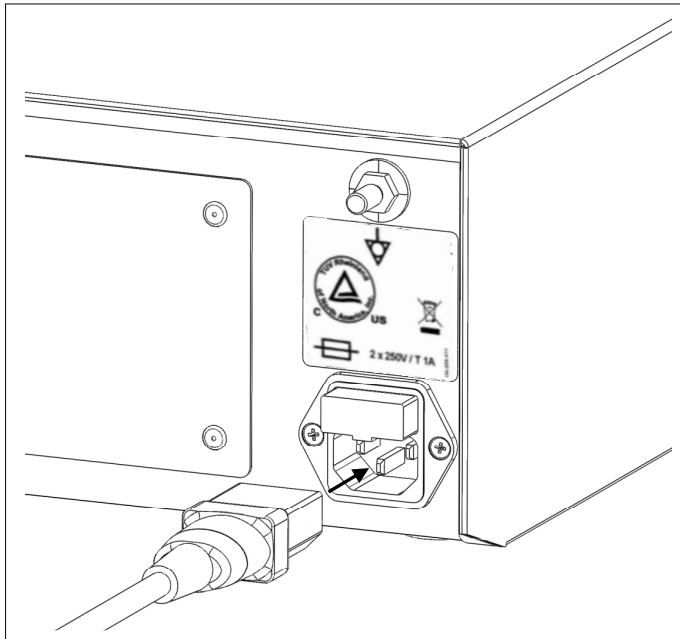

Fig. 6.2: Connection of the power cord
- 2) Connect the power cord to the *mains connector (18)* of the peristaltic pump unit (see fig. 6.2).